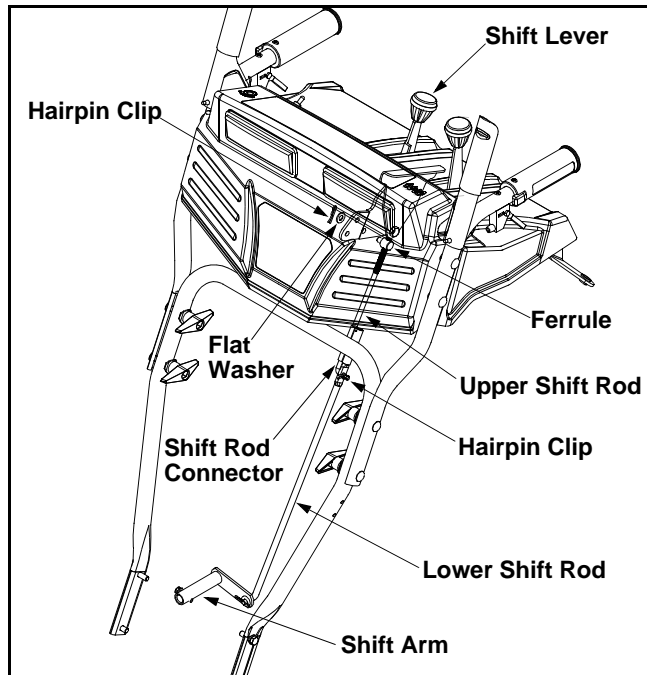

Figure 11
- Remove the hairpin clip and slide the shift rod connector up, to separate the upper shift rod from the lower shift rod. See Figure 11.
- Place the shift lever into the sixth (6) position.